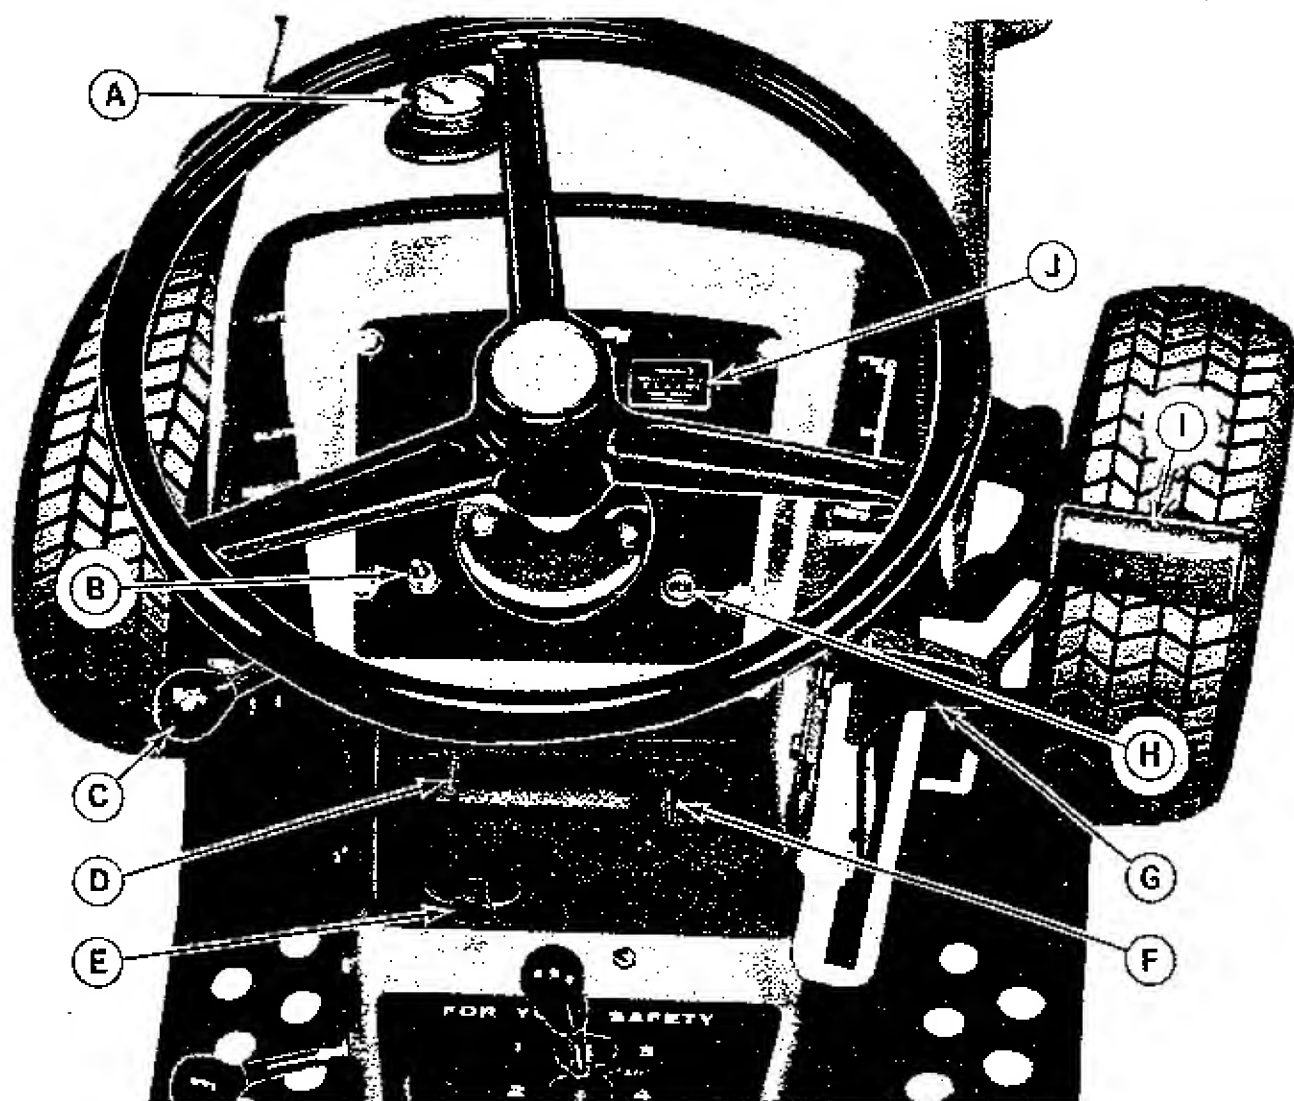

Figure 1. Tractor instrument panel as seen from the operators position on tractor seat.
Picture yourself seated on your Landlord or Sovereign tractor. Before starting the engine, lets learn how to understand and use the instruments and controls. The paragraphs referring to the instruments and controls are illustrated in figures 1 through 4.
IGNITION SWITCH: (Figure 1, item F) To actuate the ignition switch first insert the ignition key as shown. When the key is turned clockwise to the first position, the ignition is ON. In the ON position the lights, hourmeter, etc. will operate. Turn the key clockwise past the ON position to the START position to actuate the starter. THE TRANSMISSION SHIFT LEVER MUST BE IN THE NEUTRAL POSITION AND THE POWER TAKE OFF CLUTCH CONTROL LEVER (S) MUST BE IN THE DISENGAGED POSITION BEFORE THE STARTER WILL ACTUATE. Release the
CHOKE CONTROL KNOB: (Figure 1, item E) The choke control knob may be pulled out to increase the amount of fuel entering the engine for starting and cold weather warmup. When starting a cold engine in cold weather pull the choke all the way out. Some choke may be required to start the engine when the air temperature is above 70 degrees F or while the engine is still warm from being recently run. After the engine has started, push the choke in slowly. In cold weather it may be necessary to leave the choke pulled out slightly for three or four minutes while the engine warms up. **NEVER OPERATE THE ENGINE WITH THE CHOKE OUT AFTER IT HAS HAD SUFFICIENT TIME TO**
GENERATOR WARNING LIGHT: (Figure 1, item H) The generator light will warn you if the generator or voltage regulator on your tractor is not functioning properly. It is normal for the generator light to come on when the ignition switch is in the ON position and the engine is stopped or running at low speed. The light should go out when the engine is running at higher speeds. If it does not the generator or voltage regulator is not functioning properly. Check the generator belt adjustment as described on page 13. See your Simplicity dealer if the light will not go out after the belt is adjusted.
HOURLMETER: (OPTIONAL) (Figure 1, item J) The hourmeter is useful in keeping accurate maintenance records and telling how much time the tractor has been used on a particular job. It operates anytime the ignition is turned on whether the engine is running or not.
FUEL GAUGE AND FILLER CAP: (Figure 1, item A) The fuel gauge indicates fuel level. **BEFORE ADDING FUEL, SHUT OFF THE ENGINE AND ALLOW IT TO COOL SEVERAL MINUTES.** Turn the cap counter-clockwise to remove it and add fuel. The 3 gallon capacity provides about 3 hours of mowing. Use leaded or non-leaded **REGULAR** grade automotive gasoline. **CAUTION: DO NOT ALLOW LIGHTED CIGARETTES, MATCHES, ETC., AROUND ANY OPEN GASOLINE CONTAINER. DO NOT OVERFILL; WIPE UP ANY SPILLED GASOLINE.**
LIGHT SWITCH: (Standard equipment on Sovereign; Optional on Landlord) (Figure 1, item D) The switch should be moved up to the ON position to turn on the tractor lights. To prevent the lights from being turned on by unauthorized persons, the ignition switch must also be in the ON position for the lights to operate. To turn the lights off, push the light switch down to the OFF position. **DO NOT OPERATE THE LIGHTS FOR LONG PERIODS OF TIME (MORE THAN 20 MINUTES) WHEN THE GENERATOR LIGHT IS ON OR THE BATTERY MAY DISCHARGE ENOUGH SO IT WILL NOT START THE ENGINE.**
POWER LIFT SWITCH: (OPTIONAL) (Figure 1, item B) The power lift switch controls the electrically operated power lift unit. Push the toggle switch forward to raise a front, center or rear mounted attachment. Pull it back toward you to lower the attachments. The power lift will stop and hold in any position when you release the toggle switch. The height indicator (Figure 6, item A) on the left side of the tractor shows attachment position. The lift motor will ratchet when it has reached the end of its travel. Ratcheting is not harmful to the unit, but releasing the toggle switch as soon as ratcheting begins will prevent unnecessary wear. If the motor is allowed to ratchet for an extended period of time, a circuit breaker will open, disconnecting power to the lift motor. It will automatically reset after about a minute.
CLUTCH AND BRAKE PEDAL: (Figure 1, item I) Depressing the pedal will first disengage the tractor drive clutch. As you continue to depress the pedal, the brakes will
be applied to stop the tractor. The clutch-brake pedal may be depressed for shifting transmission gears, but it is not necessary if the shuttle drive control lever (Figure 1, item G) is in the neutral position.
SHUTTLE DRIVE CONTROL LEVER (Figure 1, item G) The position of this lever determines whether the tractor moves forward or reverse or remains stationary. It can also be used for short periods of time to reduce tractor travel speed in either forward or reverse, or used to stop tractor travel by pulling it toward the opposite position.
Although the tractor may be shifted into or out of any gear by depressing the clutch-brake pedal, it may be shifted more rapidly by placing the shuttling control lever in the center **NEUTRAL** position as shown in figure 1. The brake which is automatically applied when this lever is in neutral, stops "spinning" of the transmission input shaft to facilitate shifting.
SPEED CONTROL LEVER: (Figure 1, item C) The engine speed control lever is used to set the desired engine speed. The speed control lever should be moved forward away from the operator to increase engine speed or back toward the operator to reduce engine speed. Consult the appropriate section of this manual for specific information on suggested settings of the engine speed control lever. For example: starting the engine, page 5. Controlling tractor ground speed page 5, and the Operation Chart on page 7.